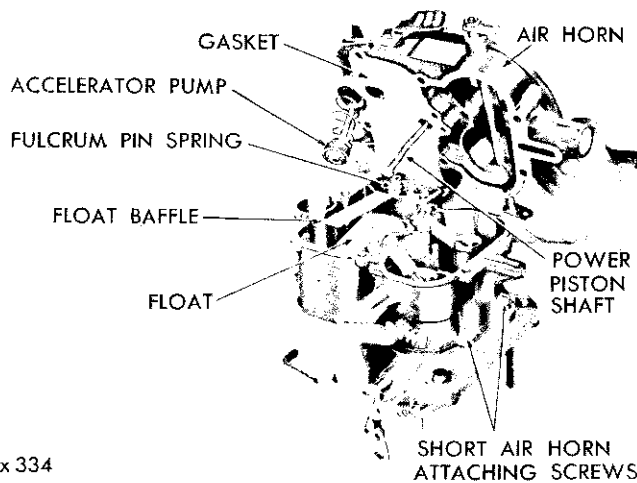

Fig. 14—Removing or Installing Air Horn
screws through the main body into the throttle body to hold the bodies together (Fig. 14).
(5) Remove the remaining air horn attaching screws, then lift air horn straight up and away from main body, as shown in Figure 14.
Install float, needle and seat and tighten seat securely. Slide the float baffle down into position and install the fulcrum pin spring (Fig. 14). Remeasure as described in Step 2 above.